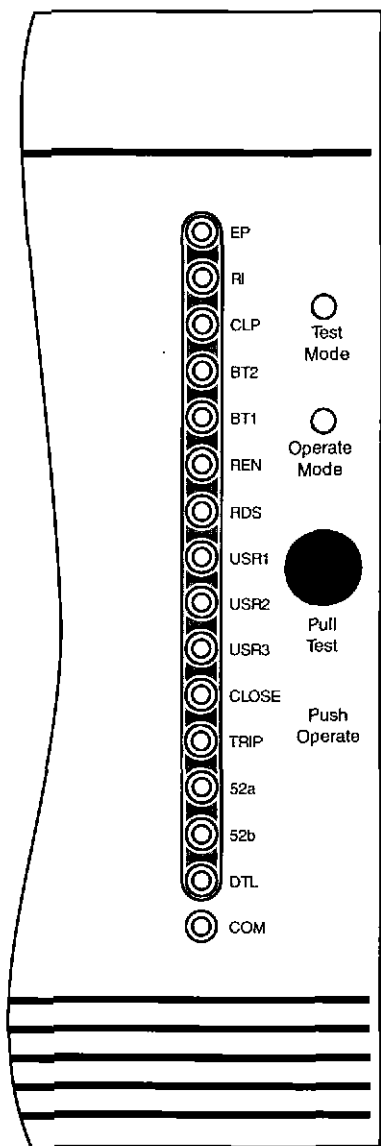

Figure 1 - Front Panel Test Points (option)
- The optional test module provides the means to disconnect control inputs and apply test signals through the test points shown in figure 1.